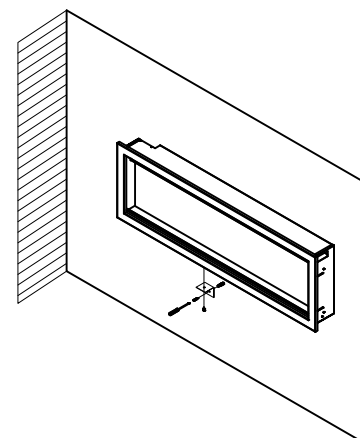

Fig. 4
6. To prevent fireplace from moving, use the provided safety screw to fasten the fireplace to the wall. See Figure 4.